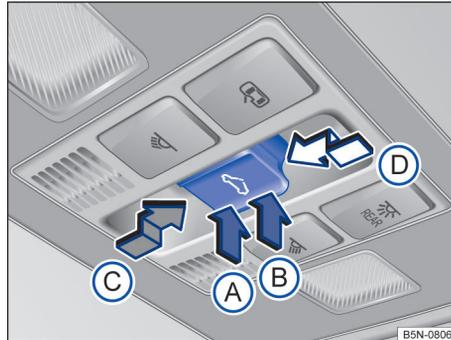

Fig. 63 In the headliner: Power sunroof switch.
The  switch → **fig. 63** has two detents for each switch position (A, B, C, and D).
- Press the  button → fig. 63 within about 5 seconds after the sunroof has stopped and hold it in the direction of the arrow  at the second detent until the power sunroof closes completely.